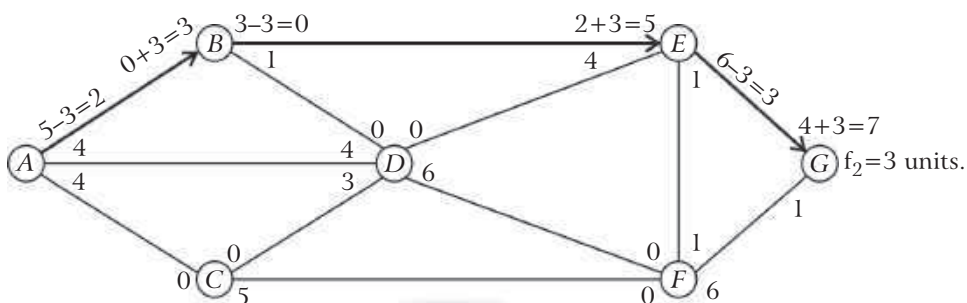

Fig. 8.35
Step 4: Now consider the route $A - B - E - G$. (see fig. 8.35).
Then proceeding as in step 2 and 3, we get the following network (residue graph) fig. 8.35 and max. flow in the route $f_2 = 3$ units. Here arc BE is the bottleneck arc.